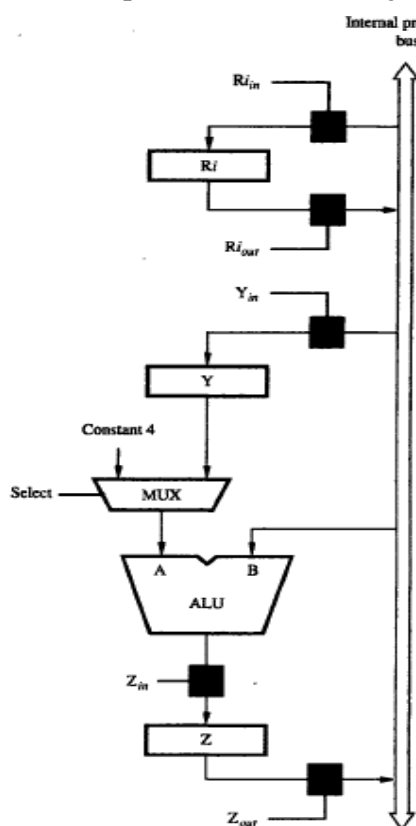

Figure 7.2 Input and output gating for the registers in Figure 7.1.
1. Enable the output of registers $R1$ by setting $R1_{out}$ to 1 (Figure 7.2). This places the contents of $R1$ on processor-bus.
PERFORMING AN ARITHMETIC OR LOGIC OPERATION (refer fig:7.2)